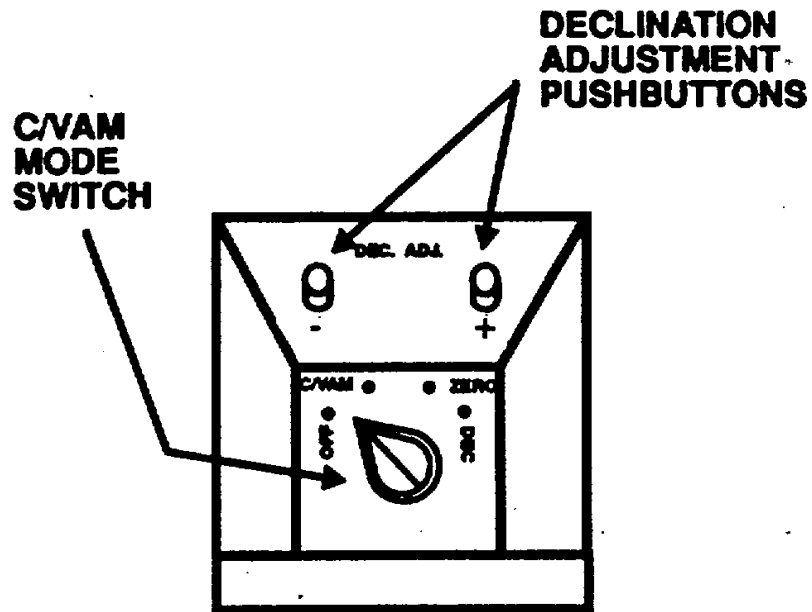

Figure 2-8. C/VAM Mode Switch
g. C/VAM Mode Switch. (Figure 2-8).
- (1) OFF            Power is not applied to the C/VAM.
- (2) C/VAM        Power is applied and C/VAM is in the standby mode. In this mode the C/VAM alternately displays, target azimuth and vertical angle information in upper eyepiece display when Fire Switch is pressed.
- h DEC. ADJ. +/- Pushbutton Switch(Figure2-8).
- (1)+ Increments declination display in single positive steps when pressed for less than 1 second.
- (2)- Increments declination display in single negative steps when pressed for less than 1 second.